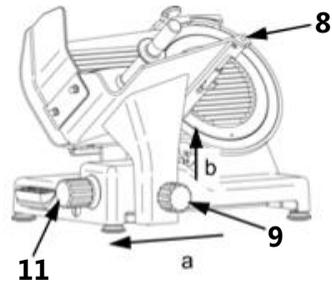

Fig. 29
- To clean, remove the carriage (8) from the device.
- The carriage (8) may be dismantled, for example for cleaning, only when the slice thickness adjustment (11) is set back to “0” and the carriage (8) is completely pulled out towards the slice thickness adjustment (11) (a, fig. 29).
- Undo the carriage locking knob (9) and pull the carriage towards you. When it is not possible to loosen it easily, again pull the carriage (8) towards the carriage locking knob (9).
- Next, completely undo the carriage locking knob (9) and pull away the carriage (8) upwards (b, fig. 29).
- Clean the carriage (8) with the cover (17) and carriage tray (6) with the pusher handle with the pusher (4) using warm water, a soft cloth and neutral cleaning agent. Rinse with clean water to remove the remains of the cleaning agent. Thoroughly dry the cleaned elements before re-attaching.